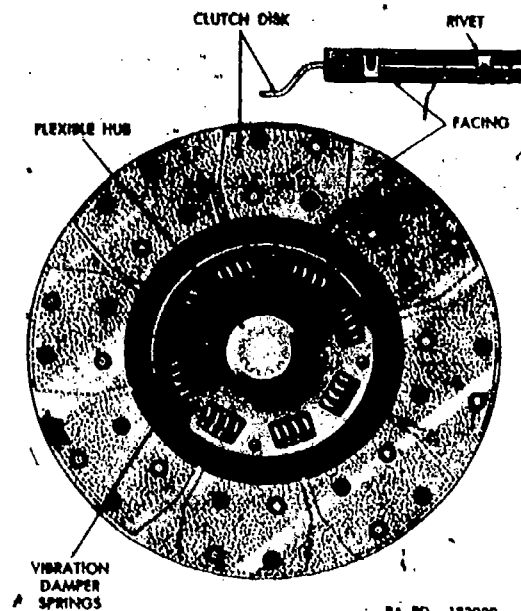

Fig 2-42. Clutch driven plate with flexible center.
- (2) Driving members. The driving members of a clutch usually consist of two cast-iron plates or flat surfaces machined and ground to a smooth finish. One of these surfaces is usually the rear face of the flywheel. The other, a heavy flat ring known as the pressure plate, is a part of the clutch assembly which is bolted to the flywheel.
- (3) Driven member (fig 2-42): The driven member, commonly called a clutch plate, consists of a steel disk with linings riveted or cemented to it. It is these linings or facings which wear during normal operation. Periodic clutch adjustments are necessary to compensate for this wear. Abnormal operation, as when the operator rides or slips the clutch, will rapidly wear out the clutch facings and require continual clutch adjustment and eventual replacement of the driven member.